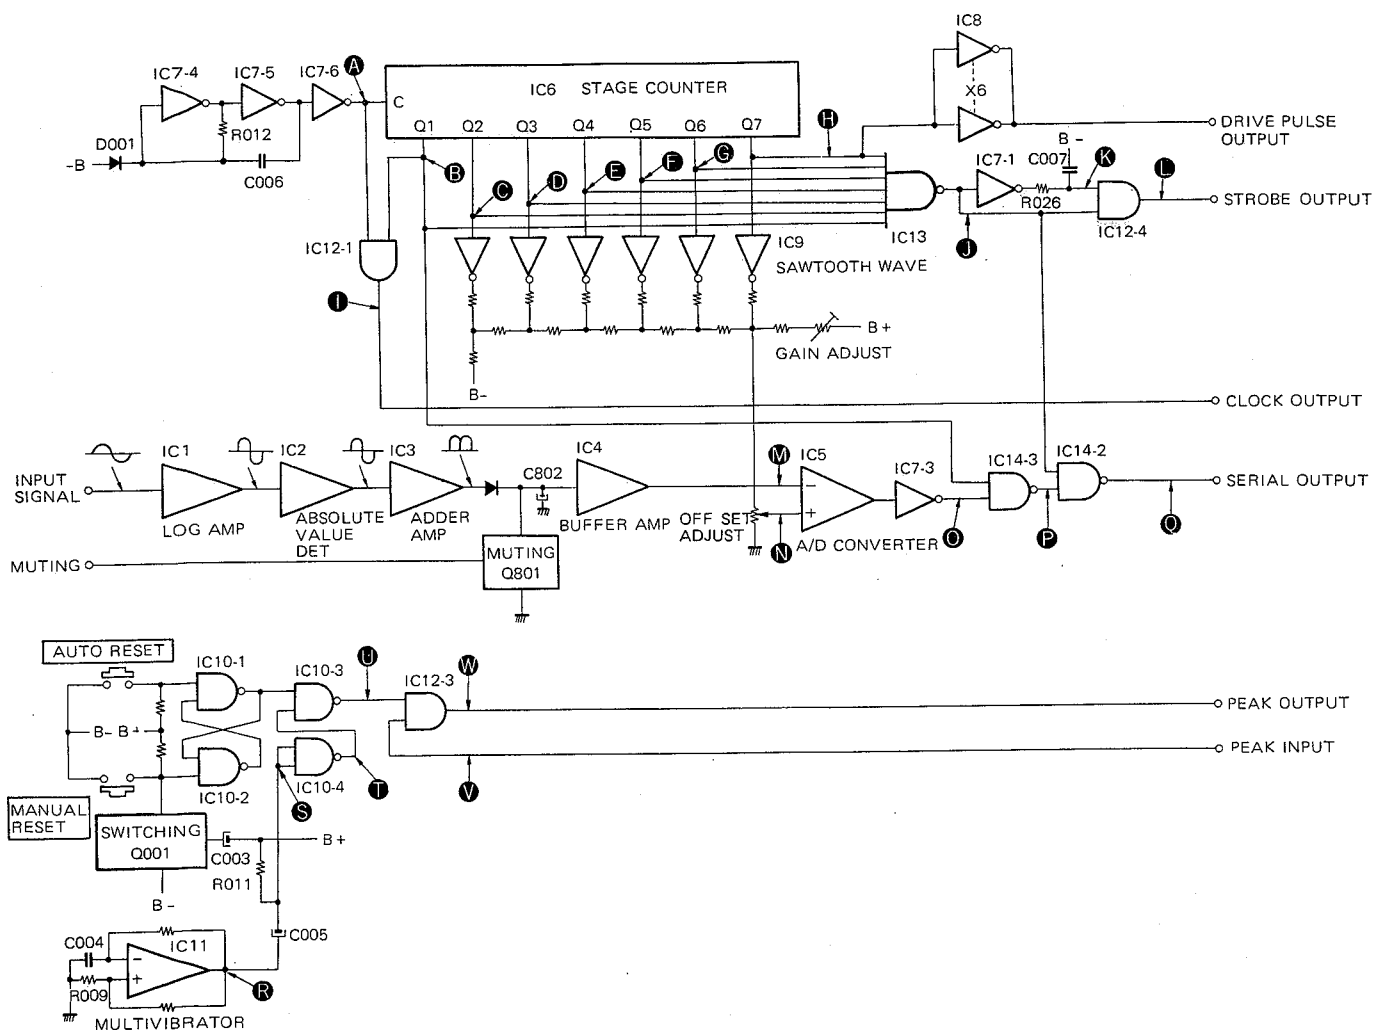

Fig. 1
1. Basic Frequency Generator Circuits for Liquid Crystal Drive (See Figs. 1 & 2.)
2. A/D Converter Serial Signal Generator Circuit (See Figs. 1 & 3.)
3. Meter Mode Switching (See Figs. 1, 4 & 5)